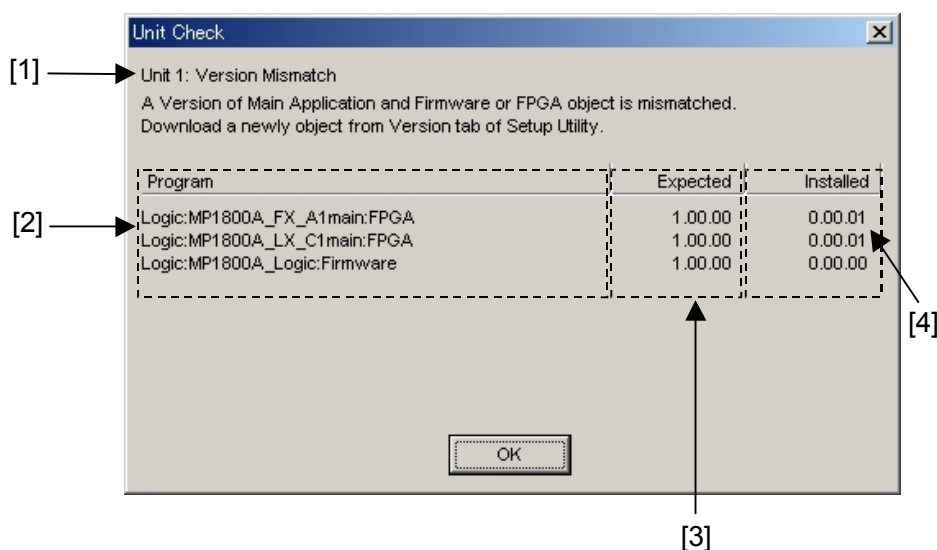

Figure 2.1-3 Version Mismatch Display Screen
- (a) If the major version does not match with any module, the screen shown in Figure 2.1-3 and operation is disabled for the corresponding unit. In this case, the Unit icon corresponding to the unit on the Tree View screen is  (indicating that it is invalid). When this screen appears, update the internal software from the [Download] tab of the Setup utility.
- (b) If the major version matches but the minor version or revision differs, the screen shown in Figure 2.1-3. The corresponding unit can still be operated, but its operation or measurement may be abnormal. In this case, the module icon corresponding to the unit on the Tree View screen is  (indicating that it is invalid). When this screen appears, update the internal software from the [Download] tab of the Setup utility.